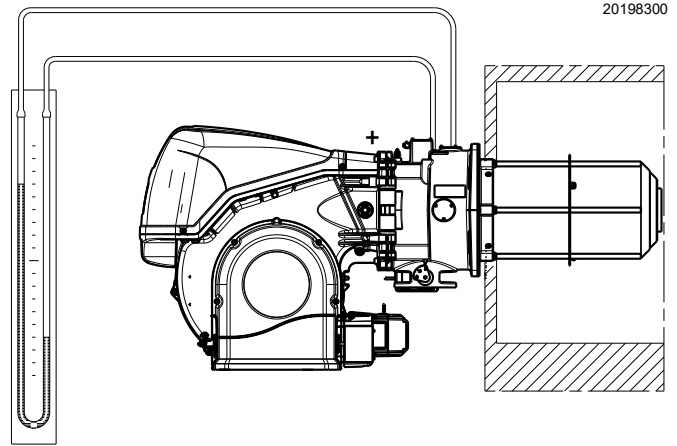

Fig. 29
- Fit a U-type pressure gauge or a differential pressure gauge (Fig. 29), with socket (+) on the gas pressure of the pipe coupling and (-) in the combustion chamber. The manometer readings are used to calculate MAX burner output using Fig. 24 and Fig. 25 on page 26.